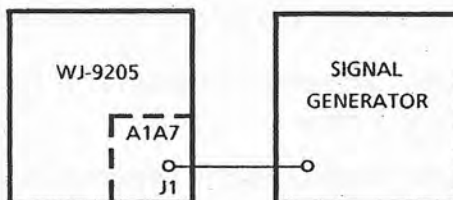

**Figure 4-6. X-Y Alignment, Equipment Connections**
10. Connect the test equipment as shown in **Figure 4-6**.